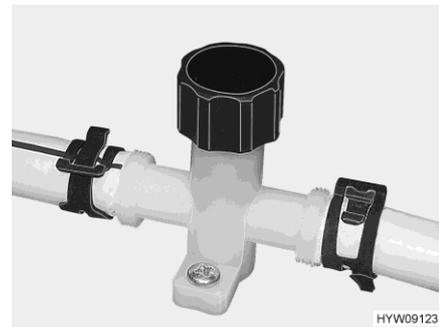

Fig. 156 Drain cock (water pipe)
- Close the drain cocks. In order to do this, turn the cap of the drain cock (Fig. 156) in a clockwise direction.